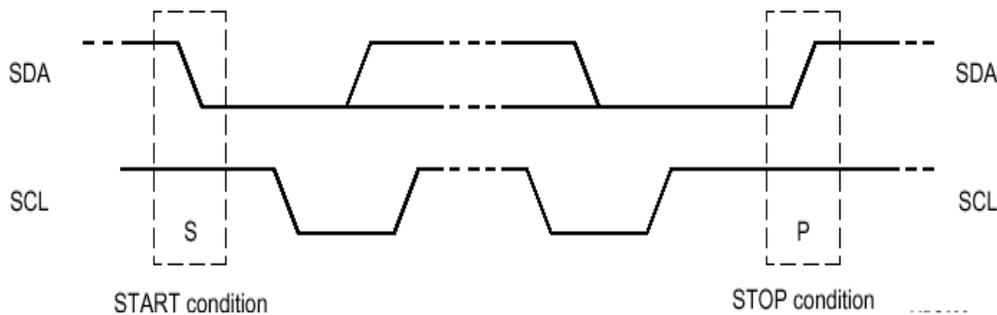

Figure 3-1. I2C, *start* and *stop* Conditions
Within the procedure of the I2C-bus, unique situations arise which are defined as *start (S)* and *stop (P)* conditions. A high to low transition on the SDA line while SCL is high is one such unique case. This situation indicates a *start* condition. A low to high transition on the SDA line while SCL is high defines a *stop* condition (see Figure 3-1). *Start* and *stop* conditions are always generated by the master. The bus is considered to be busy